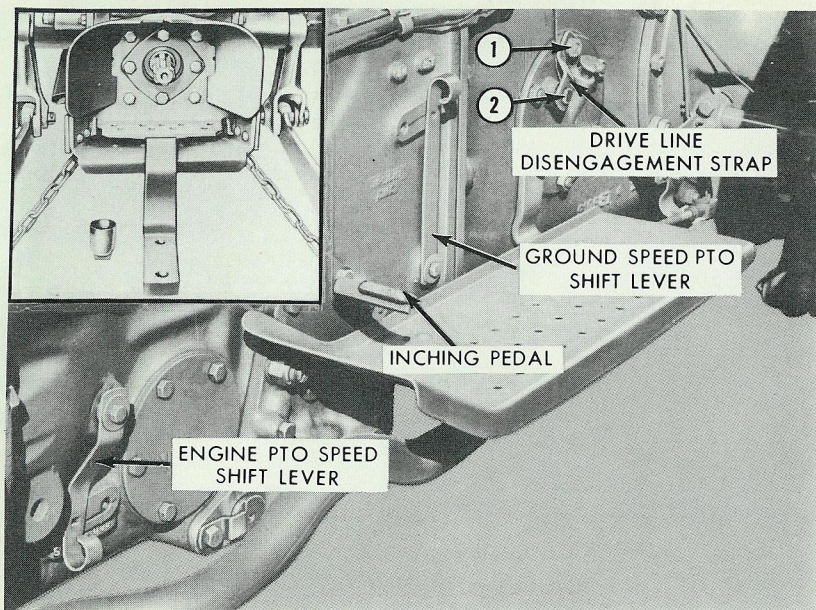

Figure 18
To disengage the transmission, disconnect the traction coupling as follows: Remove the nut (1), Figure 18, and strap; turn the strap over and reinstall it on the shaft (2), then rotate the shaft approximately 60° to the rear. Rock the tractor to make sure the transmission is disengaged. Then, reposition the strap and install the nut to make sure that the traction coupling remains disengaged.
Power Take-Off Shaft: Your Ford Tractor is equipped with a standard P.T.O. shaft ($1\frac{3}{8}$ " diameter) in accordance with A.S.A.E. specifications for attaching P.T.O. driven equipment built to A.S.A.E. standards. A P.T.O. shield, see Insert, Figure 18, is available as extra equipment from your Ford Tractor and Implement Dealer. This shield should be used as a safety precaution and serves as the supporting member for pull-type implement drive line shields in all operations involving P.T.O. driven implements.
In Model 41207 tractors, the desired P.T.O. speed of 540 or 1000 rpm should first be selected using the P.T.O. shift lever, Figure 18. With the tractor engine stopped, shift to the forward position for the 540 rpm speed, or to the rearward position for the 1000 rpm speed.
The ground speed P.T.O. is engaged by moving the ground speed P.T.O. shift lever, Figure 18, to the "ON" position, making certain that the P.T.O. control knob is in the "IN" position. The P.T.O. shaft will only turn when the tractor is in motion. Consequently, to ease into P.T.O. loads, it will be necessary to use the inching pedal. **WHEN BACKING THE TRACTOR, THE GROUND SPEED LEVER MUST BE MOVED TO THE "OFF" POSITION.** Failure to do this may result in serious damage to the implement being operated.